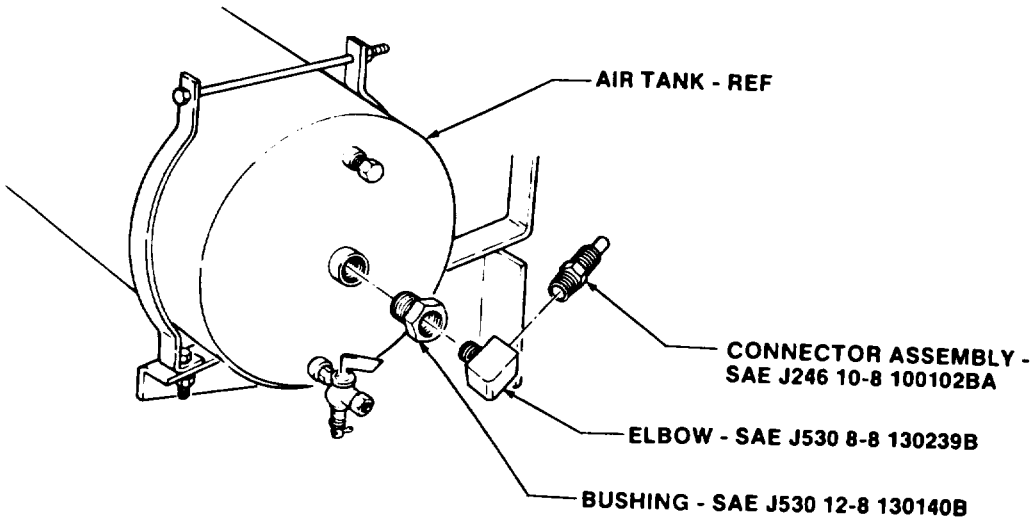

FIGURE 4
(6) Install SAE J530 12-8 130140B bushing in air tank as shown in figure 4.
(7) Install SAE J530 8-8 130239B elbow in bushing on air tank as shown in figure 4.
(8) Install SAE J246 10-8 100102BA connector assembly to elbow as shown in figure 4. Retain sleeve and nut for use in 10. b. (8).